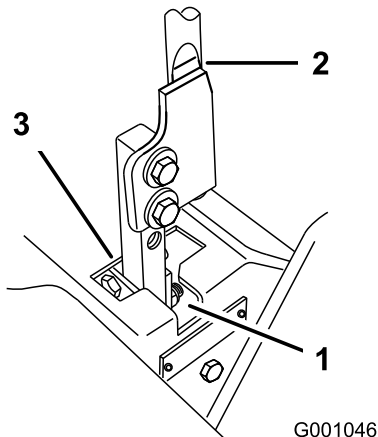

Figure 89
5. Move the lever to the neutral position but not locked (Figure 89).
6. Pull the lever back until the clevis pin (on arm below pivot shaft) contacts the end of the slot (just beginning to put pressure on the spring) as shown in Figure 89.
7. Check where the control lever is relative to notch in console (Figure 89).